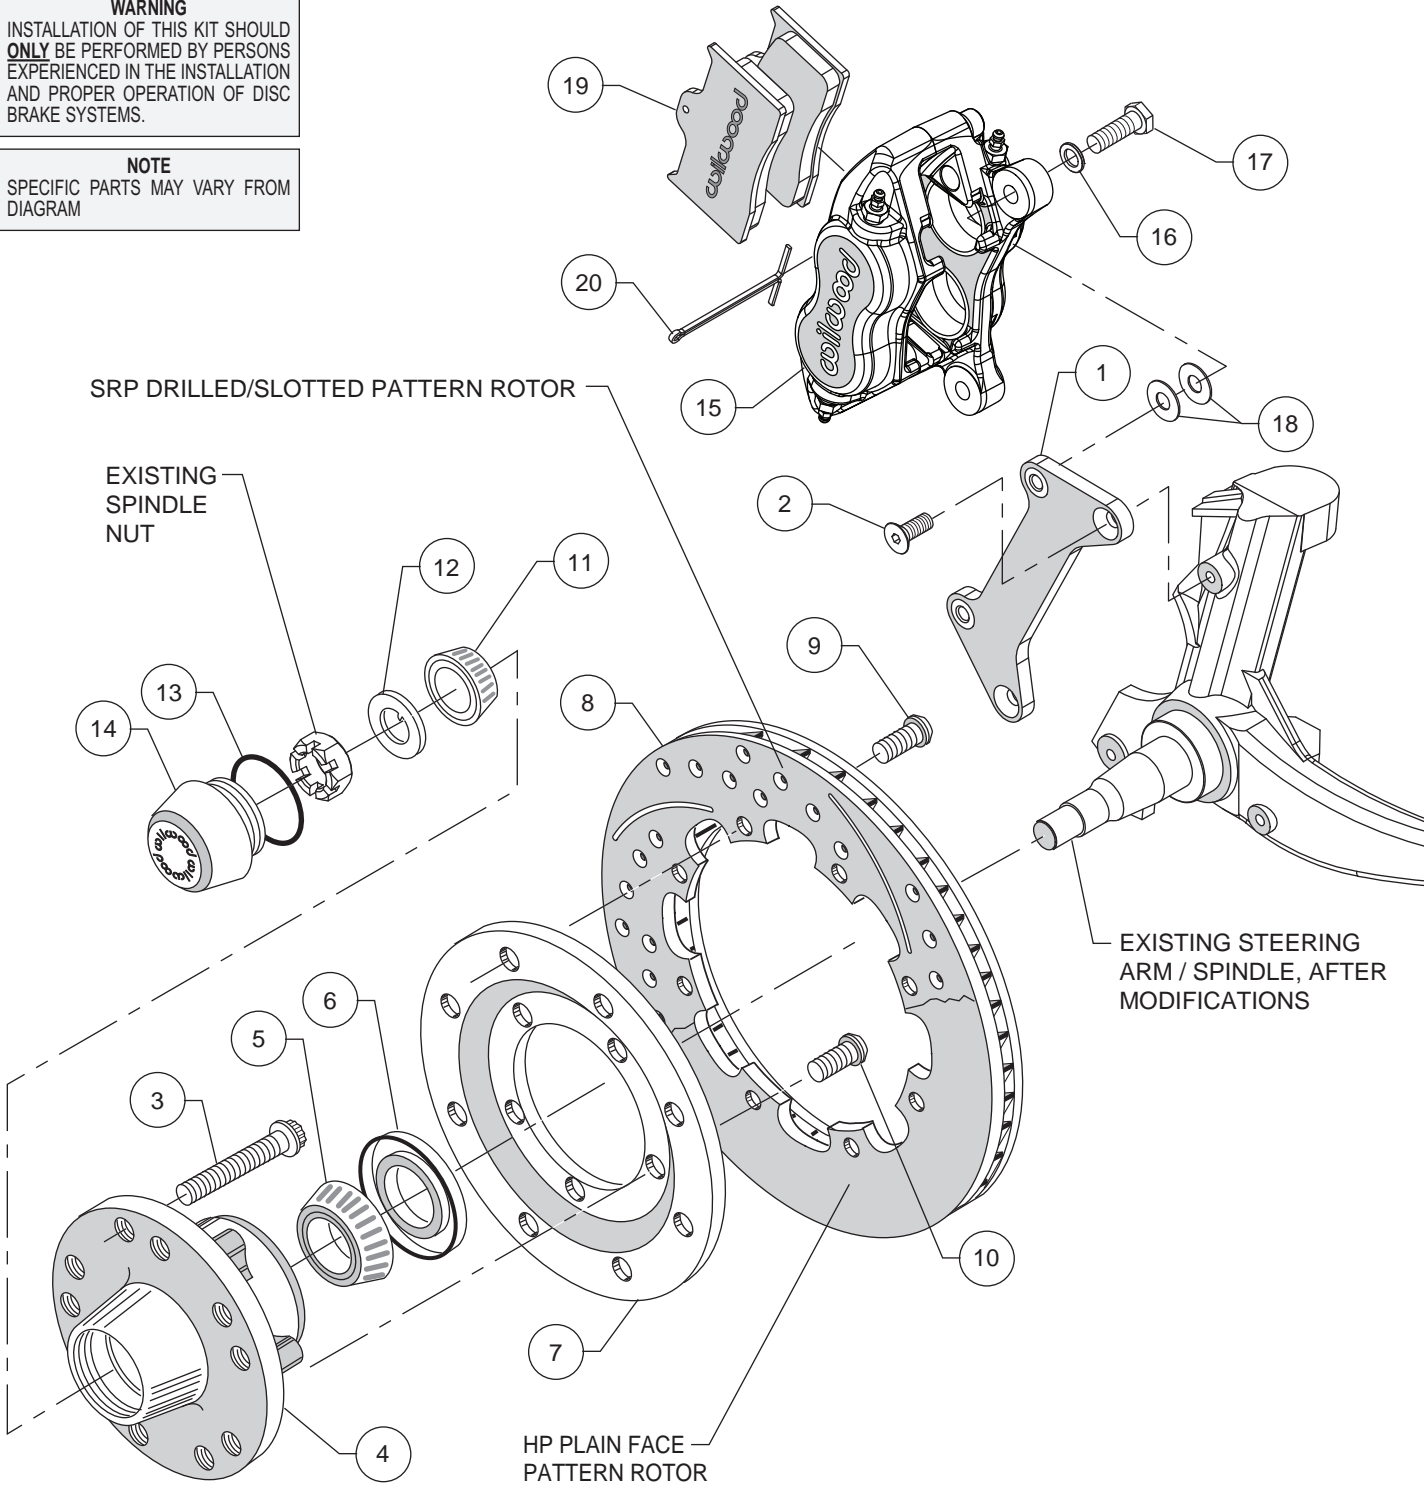
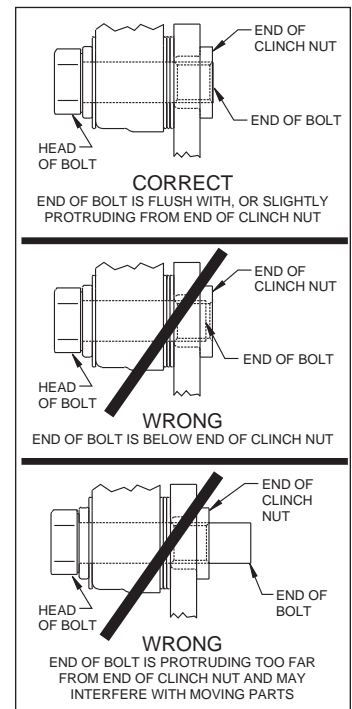

Figure 2. Typical Installation Configuration
Figure 4. Clinch Nut Engagement Diagram
Assembly Instructions (numbers in parenthesis refer to the parts list, and Figure 2): **CAUTION:** All mounting bolts must fully engage clinch nuts. Be sure to check that all bolts are either flush or protruding through flanged side of clinch nut after shimming, Figure 4.
- Align caliper mounting bracket (1) with the corresponding holes, to the face of the spindle. Attach using bolts (2) as shown in Figure 2 and Photo 1. Temporarily tighten the mounting bolts. Ensure that the flanged heads of the clinch nuts in the bracket are facing outboard, Photo 1. **NOTE:** The bracket must fit squarely against the mounting points on the spindle. Inspect for interference from casting irregularities, machining ridges, burrs, etc. Remove bolts one at a time, apply red Loctite® 271 to threads and torque to 40 ft-lbs.
- Orient the rotor (8) and the rotor adapter (7) as shown in Figure 2 and Photo 4. Attach the rotor to the adapter using bolts (9). Using an alternating sequence, apply red *Loctite*® 271 to the threads, and torque to 25 ft-lb.
- Mount the adapter/rotor assembly (7/8) to the hub (4) using bolts (10), as shown in Figure 2 and Photo 5. Using an alternating sequence, apply red *Loctite*® 271 to the threads, and torque to 45 ft-lb.
- NOTE:** Please reference the caution statement at the beginning of the assembly instructions. Mount the caliper (15) onto the caliper mounting bracket (1) using bolts (17) and washers (16), as shown in Figure 2. Initially place two .035" thick shims (18) on each bolt between the caliper and the bracket, Photo 8. Temporarily tighten the mounting bolts and view the rotor (8) through the top opening of the caliper. The rotor should be centered in the caliper, Photo 9. If not, adjust by adding or subtracting shims between the bracket and the caliper. Always use the same amount of shims on each of the two mounting bolts. **NOTE:** The end of each bolt must be flush with or slightly protruding from the head of the clinch nut, as shown in Figure 4. If necessary place spare shims between washer (16) and caliper mounting ear to achieve the proper clinch nut engagement. Once the caliper alignment and clinch nut engagement are correct, remove the bolts one at a time, apply red *Loctite*® 271 to bolt threads, and torque to 40 ft-lb.